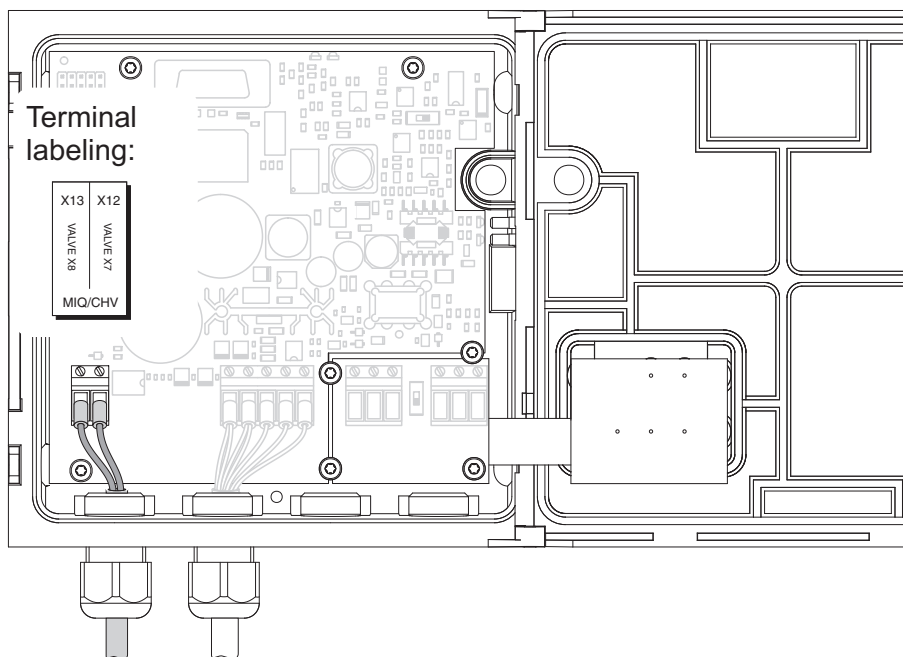

Fig. 3-7 Connection of the valve control line in the MIQ/VIS
- 4 Connect both wires of the valve control line to the terminal strip of the MIQ VIS. Follow the terminal labeling (Fig. 3-7).